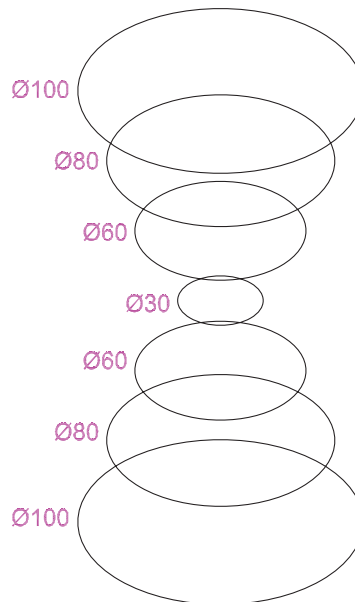

Fig. 12.41 Example – Loft – the cross-sections
1. Construct the seven circles shown in Fig. 12.41 at vertical distances of **30** units apart.